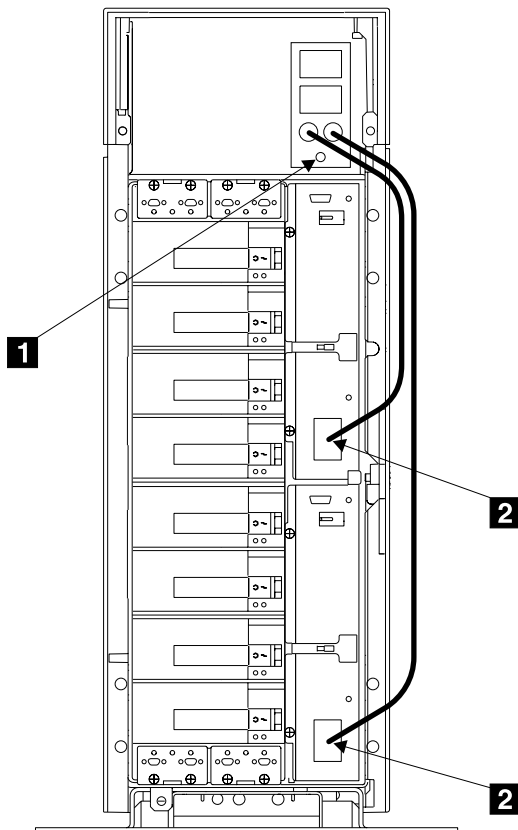

Figure 105. Removing the AC Connector Block
- Step 3. Refer to Figure 105.